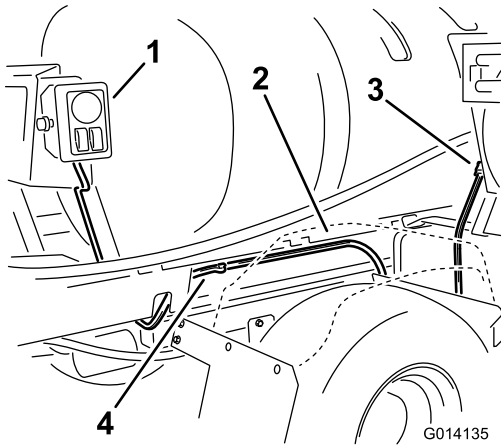

Figure 18
- At the control box, route the remaining harness with the hose reel connector forward on the right side of the machine, between the tank skid and right rear fender (Figure 18). Use 2 push in connectors to secure the harness to the tank skid frame.